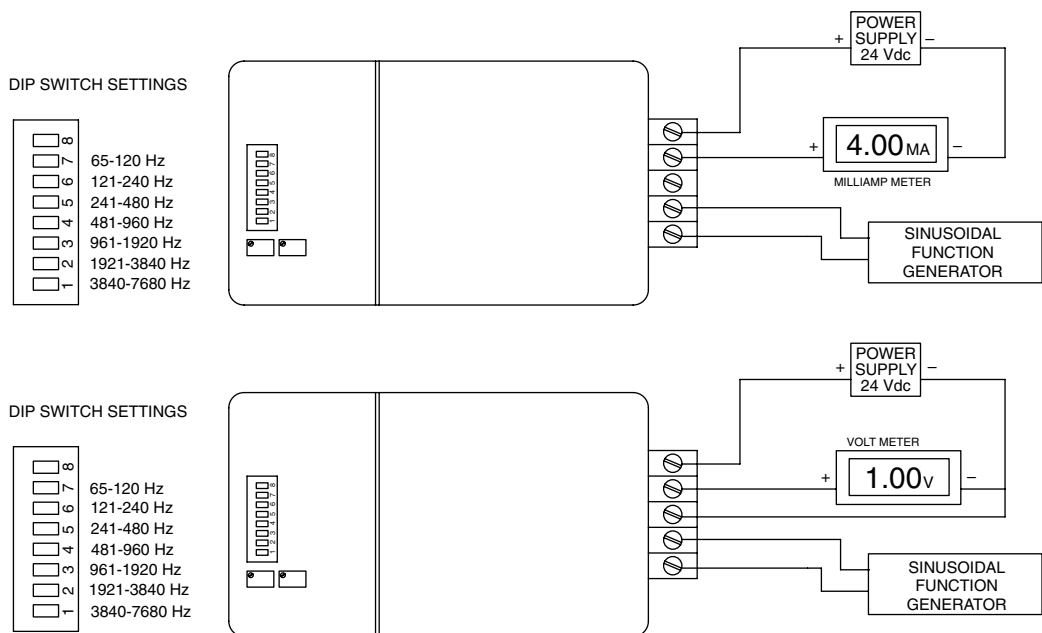

Figure 5B. New FLSC-45 Calibration Setup
1. Remove bottom cover of FLSC-45 to access calibration compartment (see Figure 5B).
2. Connect the power supply, milliamp meter and the frequency generator to signal conditioner as shown in Figure 5B for 4-20 mA or 1-5 Vdc calibration.
6. Set the coarse range adjustment by selecting a switch position on the DIP switch inside the calibration compartment. Set the correct switch position so that the F (Max) falls within the range you select. Refer to Figure 5B for ranges and DIP switch location.